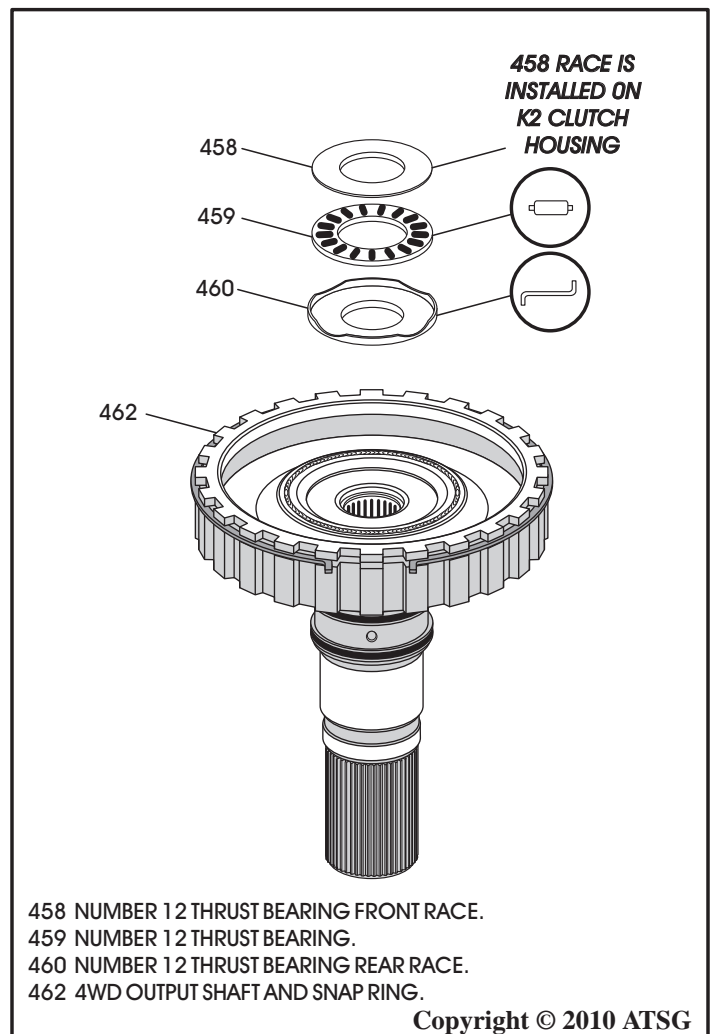

Figure 102
7. Turn output shaft over and install the number 12 thrust bearing *rear* race and number 12 thrust bearing, as shown in Figure 102, retain with a small amount of Trans-Jel®.